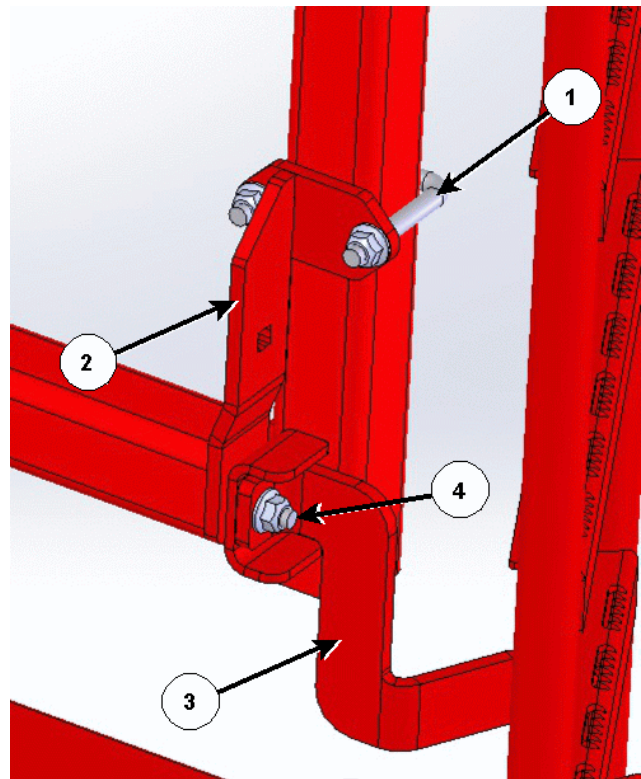

Figure 6: Fasten the mounting bracket to the platform upright and ladder support bracket
- b. Place a U-bolt (1) around the platform upright and loosely fasten it to the mounting bracket (2) using  $\frac{1}{2}$ " flange lock nuts, see *Figure 6*.
- c. Fasten the mounting bracket (2) onto the platform upright and ladder support bracket (3) using the hardware (4) that was previously removed, see *Figure 6*.